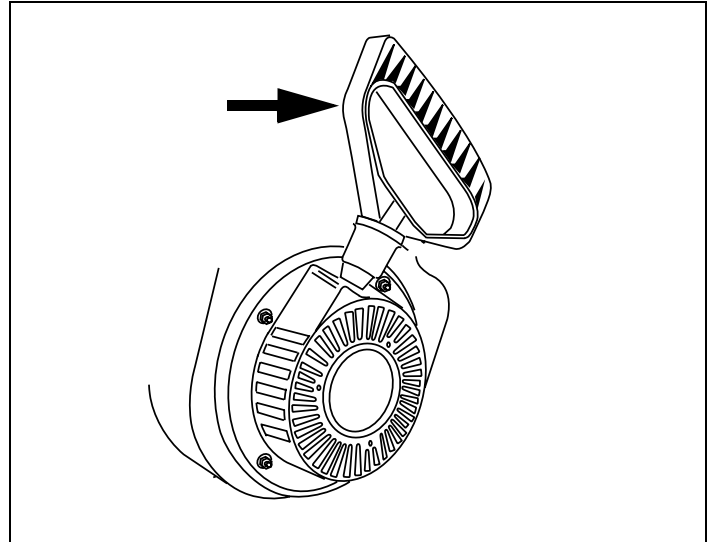

Figure 29. Recoil Starter Handle
7. Grasp starter cord handle. See Figure 29.